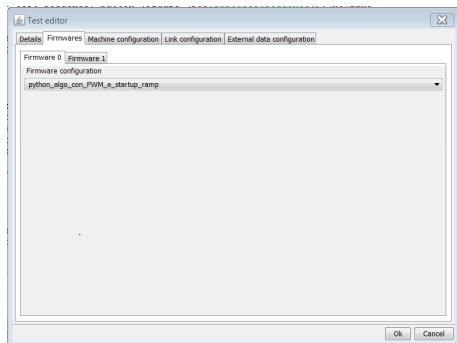

Figure 6.7: Click.
- *Details*, , is shown in Figure 6.7;